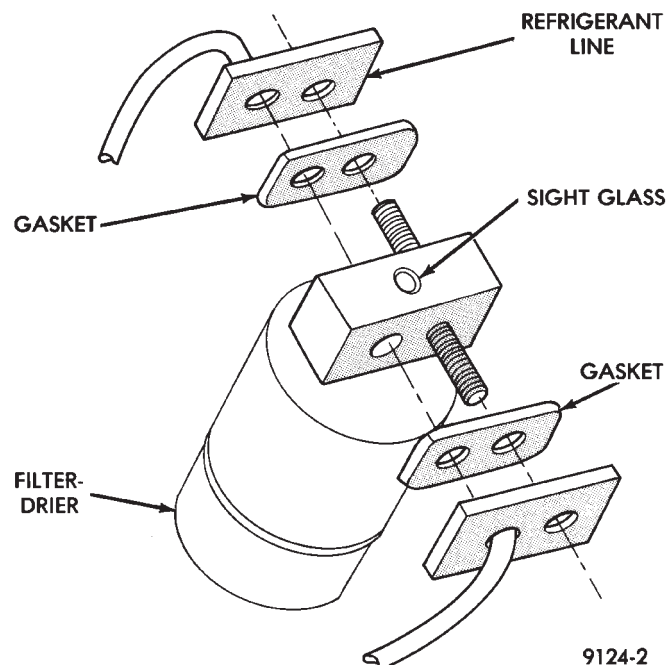

Fig. 1 Filter-Drier—Typical
(1) Remove the two high pressure lines from the sides of the filter-drier assembly (Fig. 1). Then carefully separate the lines from filter-drier. Discard old gaskets.